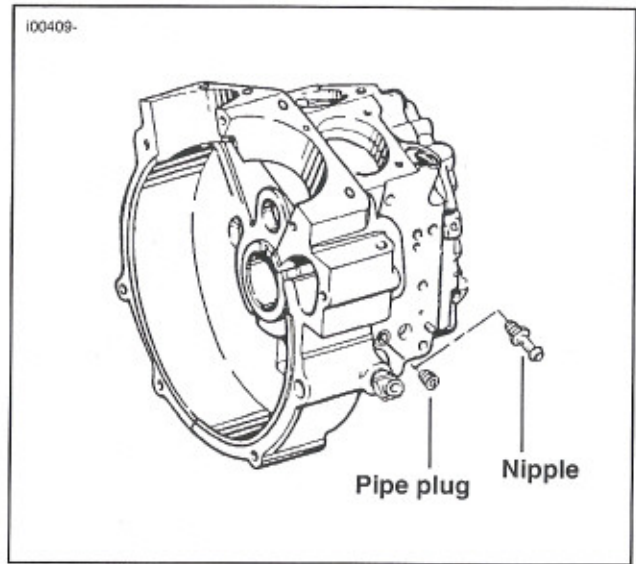

Figure 3. Crankcase Evacuation Hole
See Figures 3, 4. DO NOT REMOVE THE LOCK RING (12). There is no longer any need to remove the lock ring.